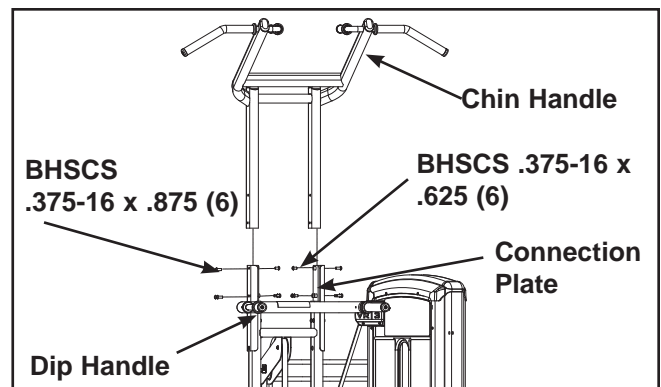

Figure 1
- A. Carefully remove hardware kit, chin handle and support leg secured to frame. With an assistant, carefully lift chin handle onto dip handle. See Figure 1.
- B. Align holes with connection plate. See Figure 1.
- C. Apply loctite #242 to the BHSCS (supplied in hardware kit). **NOTE:** BHSCS .375-16 x .625 are installed on the inside of connection plate. BHSCS 3.75-16 x .875 are installed on the outside of connection plate. See Figure 1.